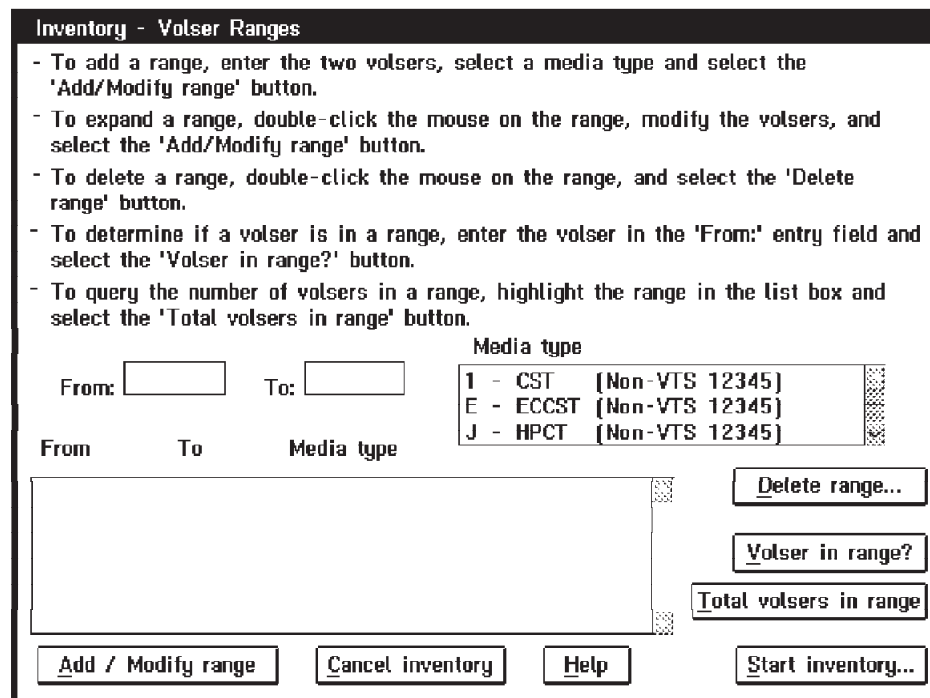

Figure 102. Set the Volser Range Window
- The volser ranges are set (see Figure 102 on page 171).
When selecting a type of inventory, an option is presented to set the volser ranges. See Figure 102 for information on how to set the volser range.